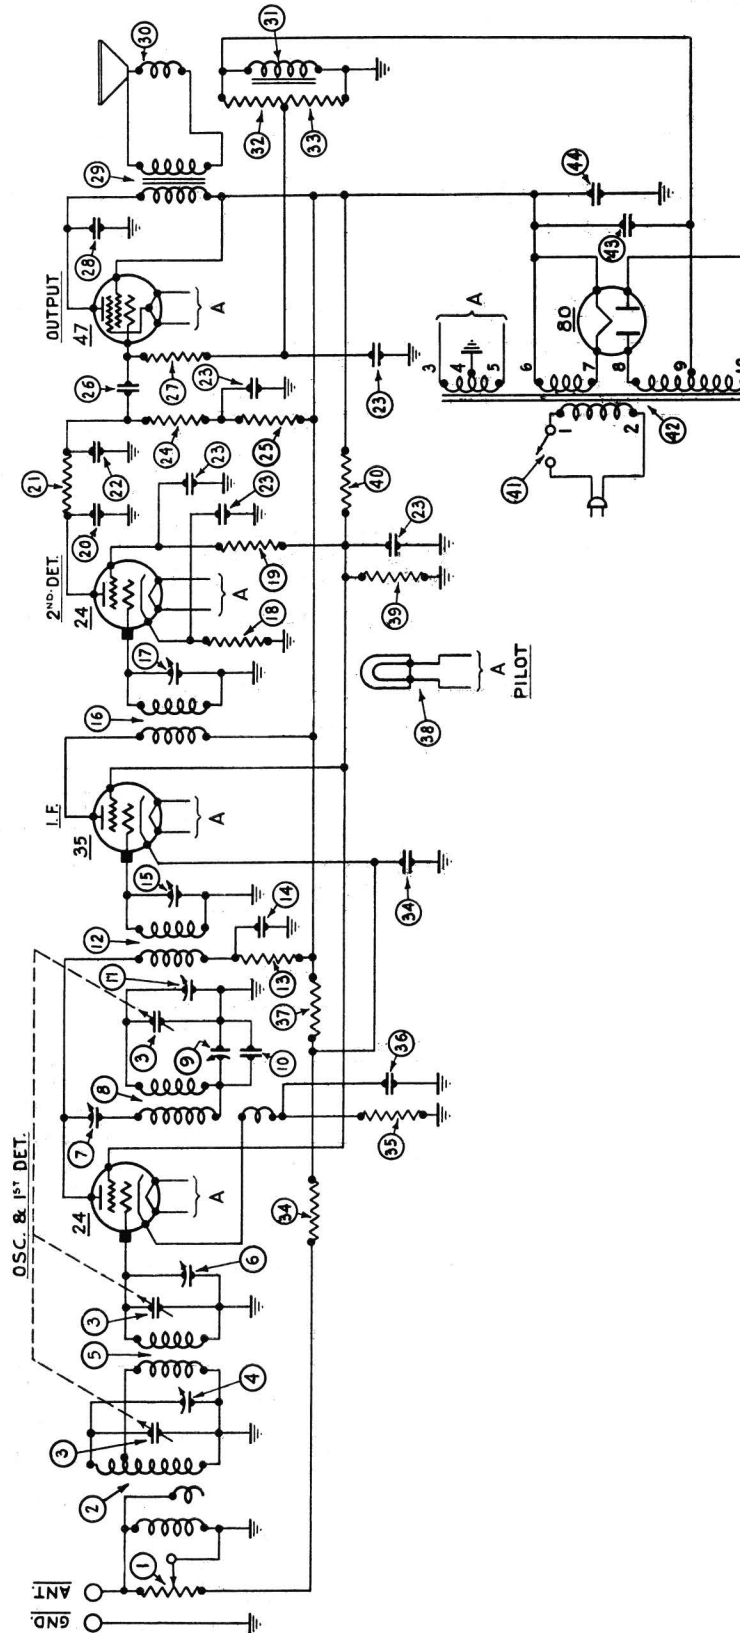

Fig. 1
The placing of certain wires in the receiver will effect the operation to a marked extent. The red wire from the primary of the first I. F. transformer ⑫, Figs. 1 and 2, to the .05 mfd. condenser ⑭, Figs. 1 and 2, must come straight down to the corner of the I. F. tube socket, then straight up to the condenser lug.
The wire from the plate of the detector-oscillator tube to the coupling compensating condenser ⑦, Figs. 1 and 2, must be away from the chassis at the side.